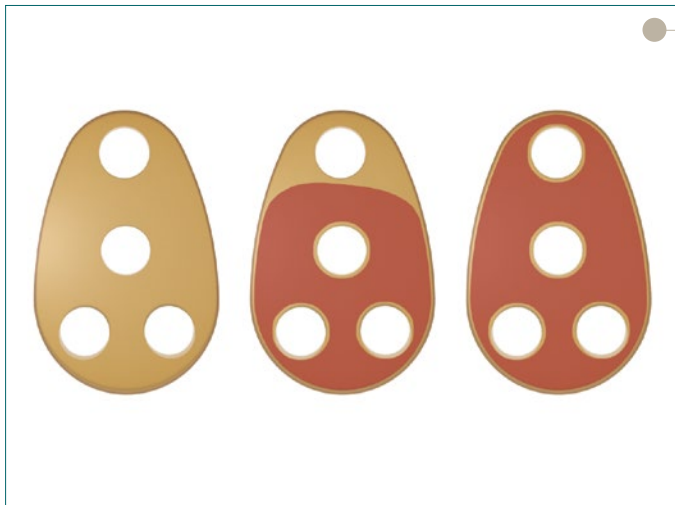

Figure 12
- ▶ Any uneven surfaces on the face of the glenoid will be presented through the translucent glenoid surface trials. (Figure 12).